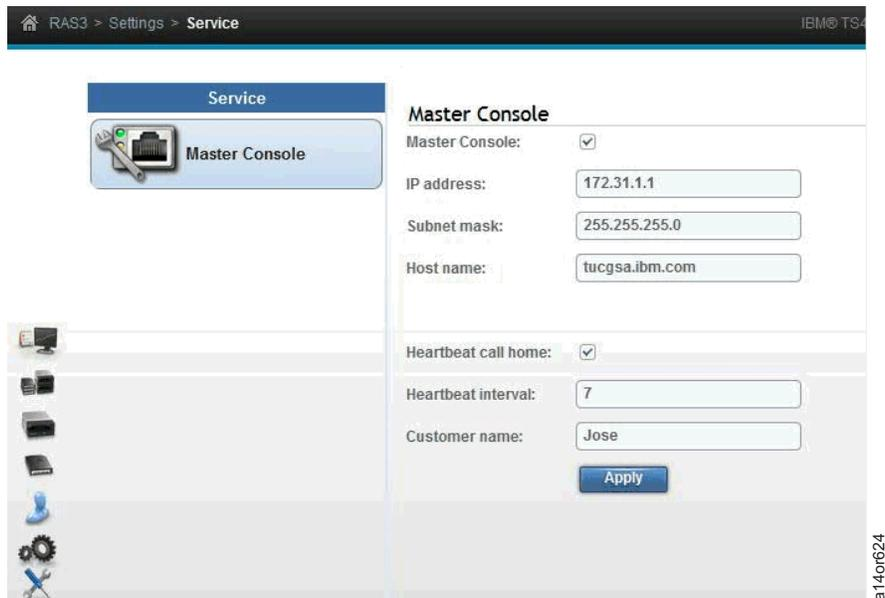

Figure 55. TS4500 IMC Call Home configuration menu
4. Input the values provided by the customer and select **Apply**. See Figure 55.